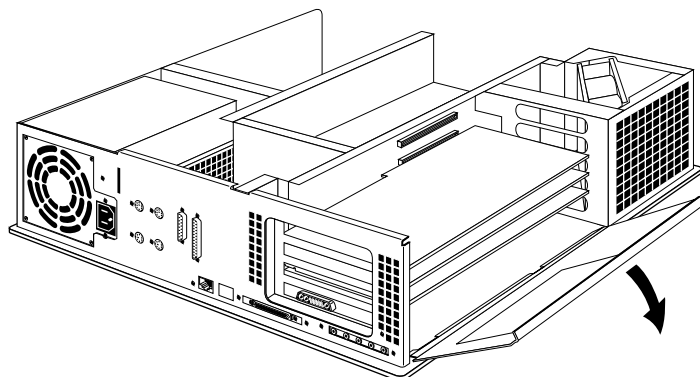

Figure 2-20 Opening the Metal Panel
2. Move the workstation or position yourself so that you are facing the expansion slots, as shown in Figure 2-20.